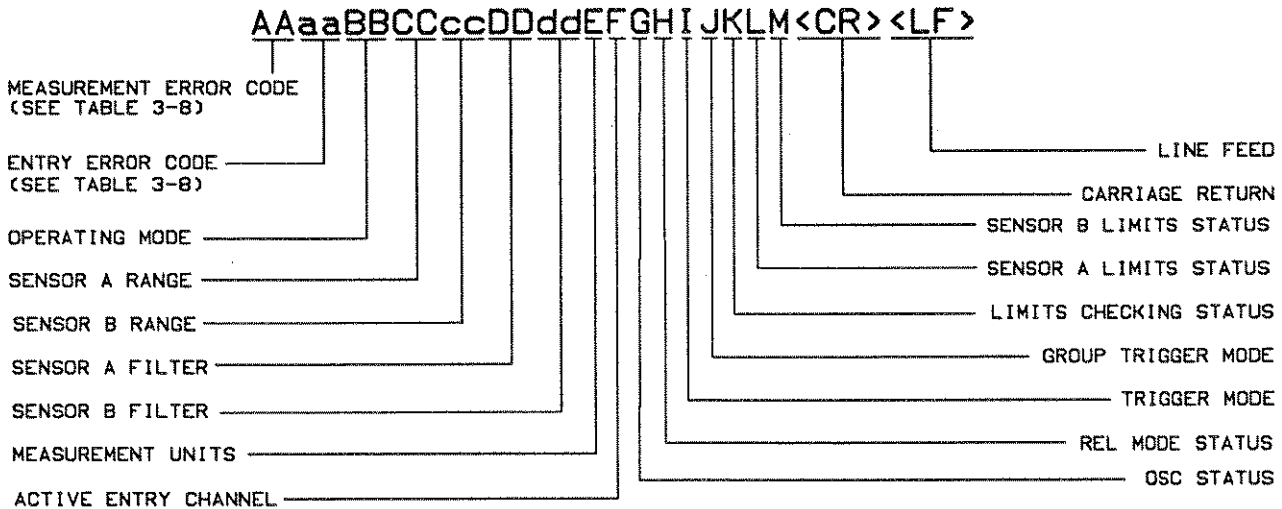

Figure 3-6. Status Message Output Format
Status Message. This function enables the power meter's current state to be read under program control. After receiving an SM program code (Status Message) and when addressed to talk, the power meter sends a string of 23 ASCII characters followed by carriage return (CR), line feed (LF), and EOI. The Status Message is updated only after a measurement. The Status Message can be interpreted with the information shown in Figure 3-6.